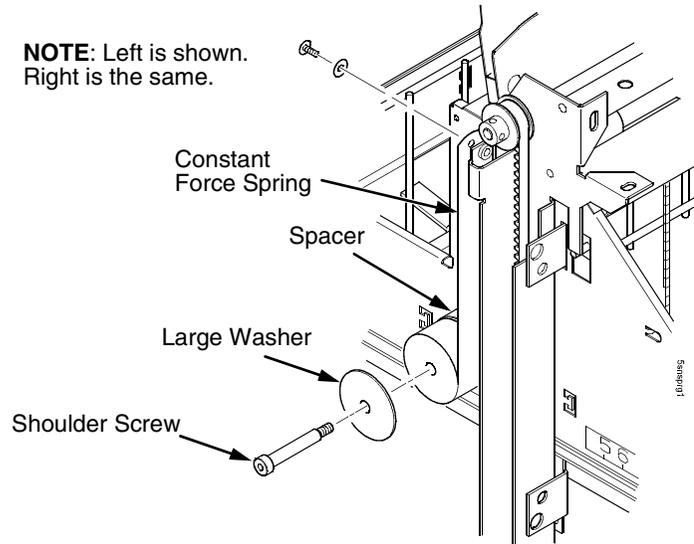

Figure 100. Releasing the Constant Force Spring
6. Remove the shoulder screw and large washer that secure the constant force spring to the vertical rail. (Figure 100.)